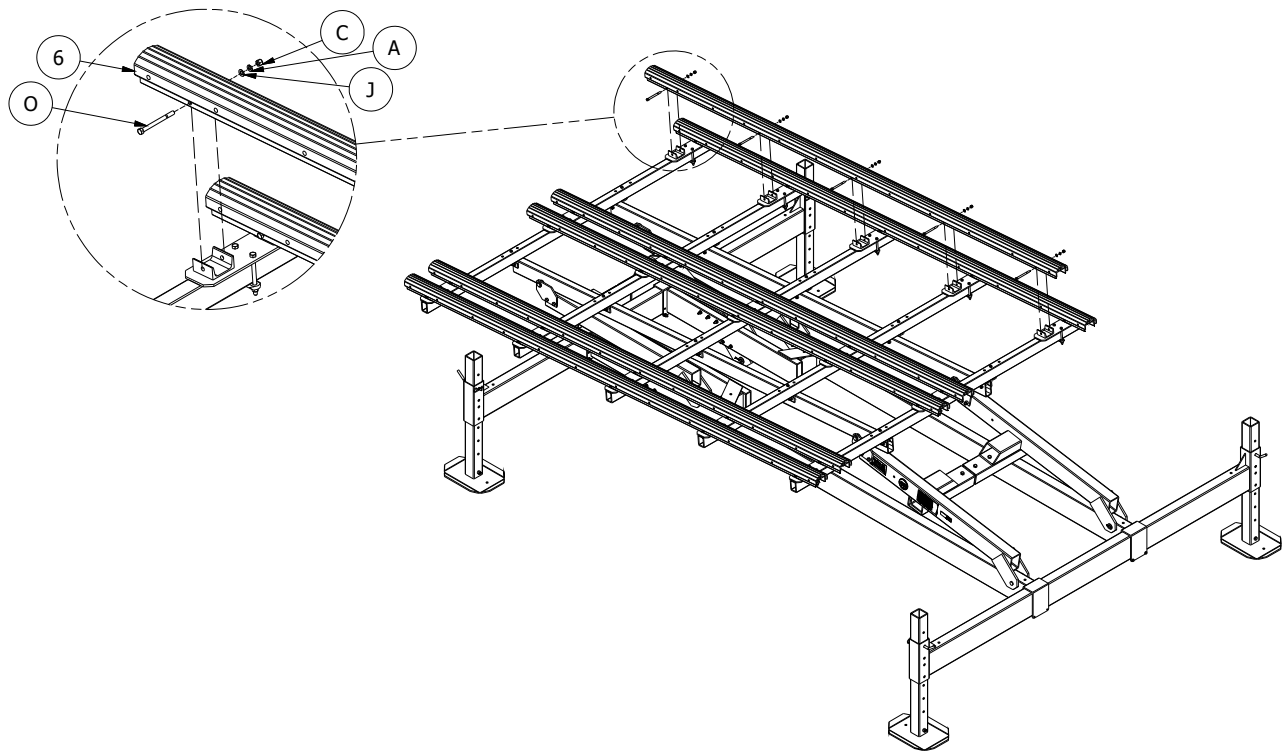

Figure 2-8.
1. Refer to Figure 2-8. Position one P&T Toon A/V cradle bracket (2), near end of a cross support tube (7).
2. Loosely attach bracket using one, two hole plate (1), and two each hex screw (F), and hex lock nut (B). **DO NOT TIGHTEN AT THIS TIME.**
4. Place an A/V Bunk (6) over the channels on one side of cradle brackets and align holes.
5. Loosely secure bunk using one each; hex screw (O), flat washer (J), lock washer (A), and hex nut (C) at each channel. **DO NOT TIGHTEN AT THIS TIME.**